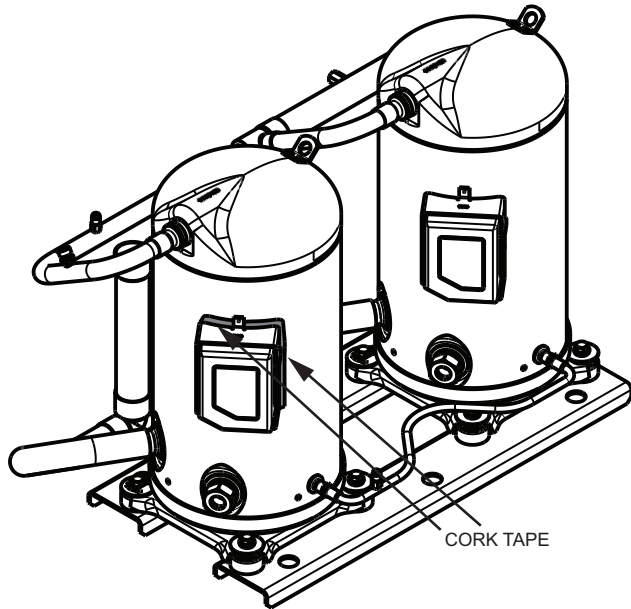

Fig. 3 — Seal Area between Terminal Box and Shell (All Compressors)
5. Seal the area between the terminal box and the compressor shell by applying cork tape around the terminal box. Do not apply cork tape over electrical conduit connectors. (See Fig. 3.)